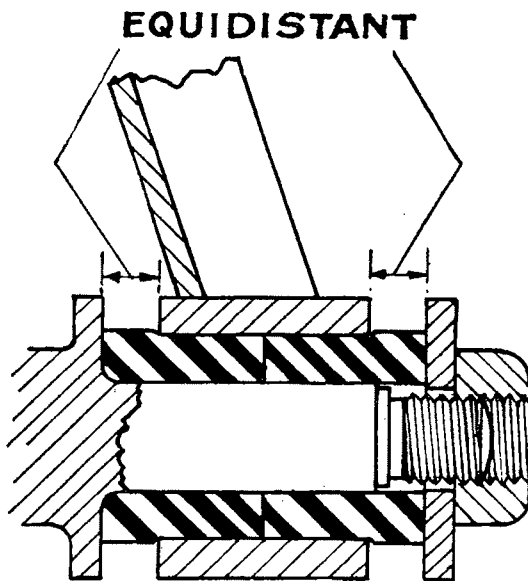

Fig. K.4
To attain this, insert each bush so that it protrudes equally each side of the housing (see Fig. K.4), and then clamp up with the washer and nut and fit the cotter pins. When central, the outer flanges of the bushes should all be of equal proportions.
- (3) Before the lower steering knuckle link is bolted in position ensure that both thrust washers and rubber seals are fitted correctly (see Fig. K.4) and make sure that the links have a total end clearance of .008 to .013 in. (.2 to .33 mm.) between the end faces of the link and the thrust washers.
To attain this, insert each bush so that it protrudes equally each side of the housing (see Fig. K.4), and then clamp up with the washer and nut. When central, the outer flanges of the bushes should be of equal proportions.
Note.—Take care that the thrust washers, rubber seals and retainers are assembled in the right order. (See Fig. K.4.)